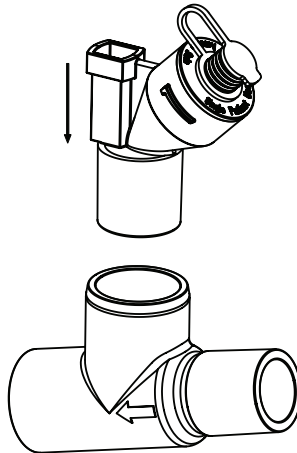
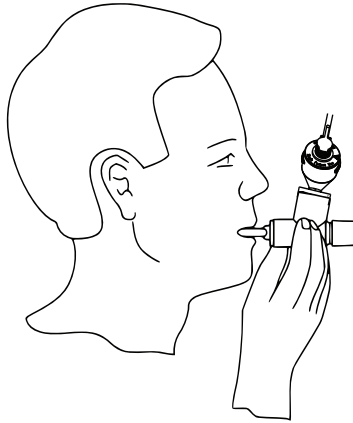

Figure 3: Connecting nebulizer unit to T-piece
Figure 15: Connecting to a mouthpiece
1. Connect the nebulizer unit to the T-piece by pushing the nebulizer unit firmly onto the T-piece (Figure 3).
When using a mouthpiece, connect the nebulizer unit to the T-piece as shown in Figure 3 in this manual, and then connect the T-piece to the mouthpiece by pushing the parts firmly together (Figure 15).
Caution: To ensure proper nebulization, maintain the nebulizer in a vertical orientation (Figure 15).